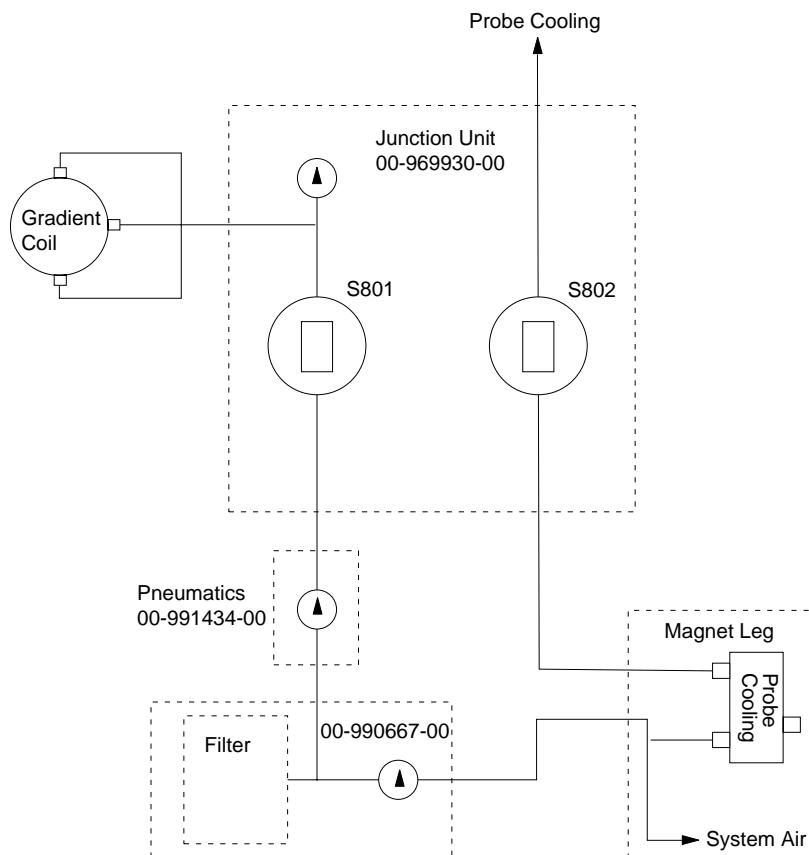

Figure 7. Air Flow Diagram
4. Check that the air hoses are properly connected. See the air flow diagram in Figure 7.
The gradient coil set and the microimaging probe use air for cooling. The air flow diagram in Figure 7 shows the required connections. Depending on the air flow requirements of the gradient coil, set the pressure sensor switch S801 and S802 accordingly.